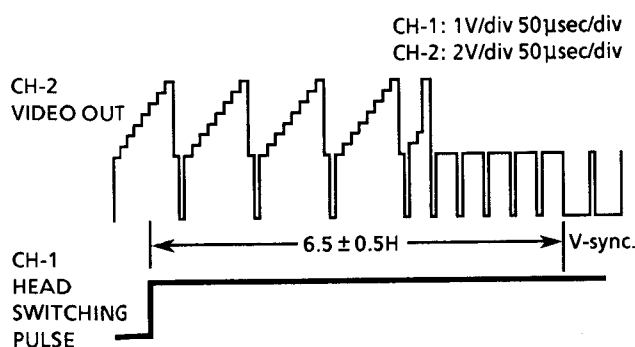

Figure 2-2.
7. Make this checking of waveform on the oscilloscope screen be shown in Figure 2-2. just after the head switching point have been adjusted.